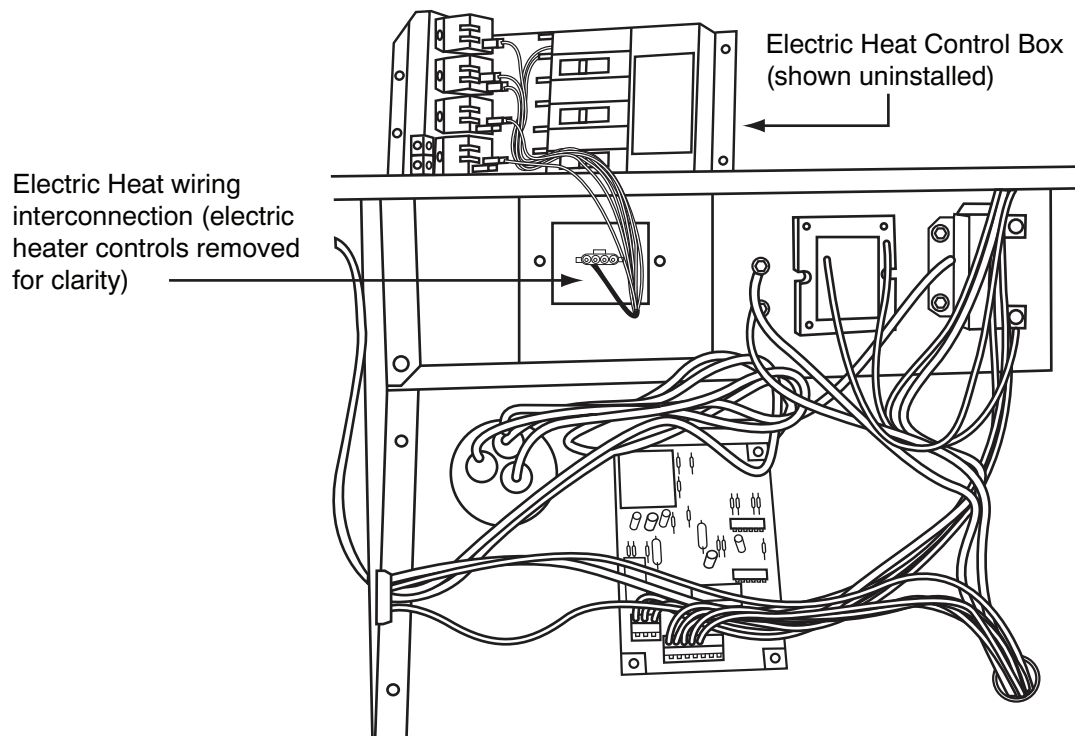

Fig. 4 - Unit Control Box Compartment
- Open heater package and remove heater control panel; set heater control panel on top of unit (See Fig. 4).